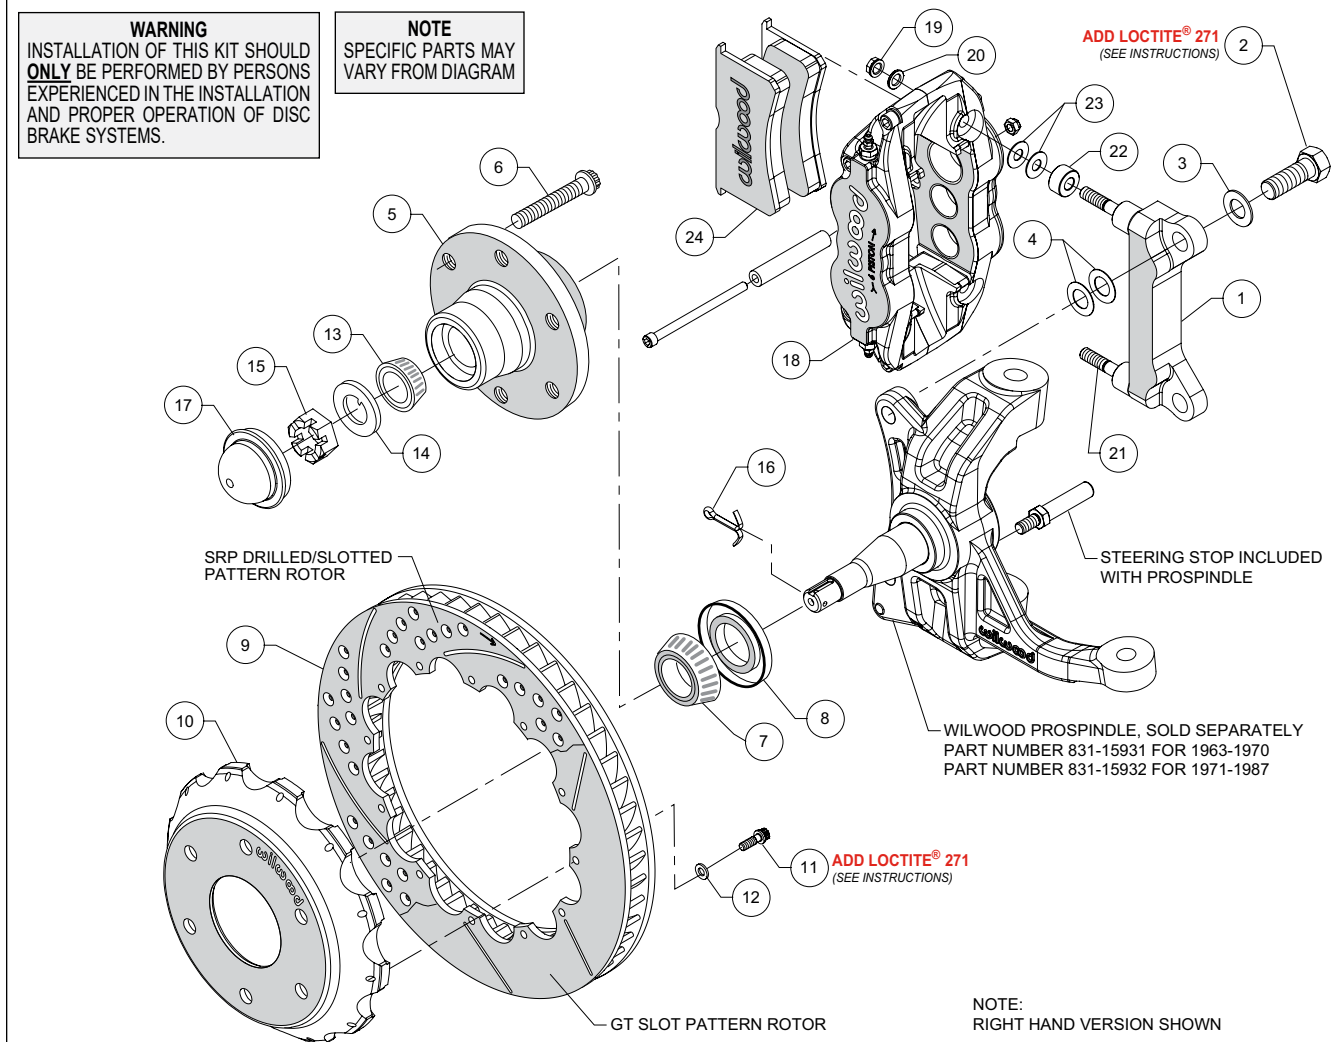
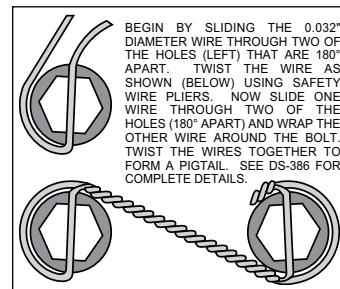

Figure 1. Typical Installation Configuration
Figure 3. Safety Wire Diagram
**NOTE:** Numbers in parenthesis refer to the parts list, and Figure 1 on the preceding pages.
- Install the steering stop bolt (included with the ProSpindle) into the spindle as shown in Figure 1 and Photo 1. Torque to 25 ft-lbs.
- The caliper mount bracket (1) should initially be installed with clean, dry threads on the mounting bolts. Orient the bracket, as shown in Figure 1 and Photo 2, and install using bolts (2) and washers (3). Initially place two .024" thick shim (4) on each bolt between the bracket and spindle, Figure 1. Temporarily tighten the mounting bolts. **NOTE: The bracket must fit squarely against the mount bosses on the spindle.** Inspect for interference from casting irregularities, machining ridges, burrs, etc. Later, after the caliper alignment has been checked, the mount bolts will be secured using red *Loctite*® 271.
- Install wheel studs (6) into the hub (5), Photo 3. Torque to 77 ft-lb.
- Pack the large inner bearing cone (7) with high temperature disc brake bearing grease (available from your local auto parts store) and install into the backside of the hub (5), Photo 4.
- Install the grease seal (8) by pressing into the backside of the hub (5), flush with the end of the hub, Photo 5.
- Pack the small outer bearing cone (13) with high temperature disc brake bearing grease and install into hub (5). Slide the hub assembly onto the spindle. Secure using spindle washer (14) and spindle nut (15), Photo 6. Adjust bearings per OEM specifications. Install a new cotter pin (16).
- Press the dust cap (17) into the hub (5). **NOTE: Do not hammer center of cap. Install using outer flange only.**
- Orient the rotor (9) and the hat (10) as shown in Figure 1 and Photo 7. Attach rotor to hat using bolts (11) and washers (12). Apply red *Loctite*® 271 to the bolt threads and torque to 155 in-lb using a criss-cross pattern. For an added measure of security, the bolts may be safety wired using standard 0.032 inch diameter stainless steel safety wire as shown in Figure 3. Refer to Wilwood's data sheet DS-386 (available at [www.wilwood.com/Pdf/DataSheets/ds386.pdf](http://www.wilwood.com/Pdf/DataSheets/ds386.pdf)) for complete safety wire installation instructions.
- Slide the hat/rotor assembly (10 and 9) onto the hub (5), Photo 8. **NOTE: The hat must fit flush against the hub face or excessive rotor run out may result.** Install three lug nuts (finger tight) to keep the hat/rotor assembly in place while continuing with the installation, Photo 8.
- **NOTE: This kit contains distinct right and left hand calipers that must be mounted in a specific direction, as described below.** Initially place two .035" thick shims (23) and one spacer (22) on each stud (21) between the caliper and the bracket, as shown in Figure 1 and Photo 9. Mount the caliper (18) onto the bracket (1) using lock nuts (19) and washers (20), Figure 1. Temporarily